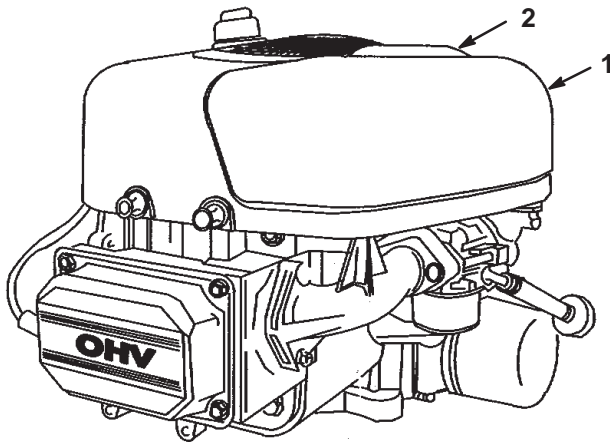

Figure 33
2. Pull up on the air cleaner cover handle and rotate it toward the engine (Fig. 33).